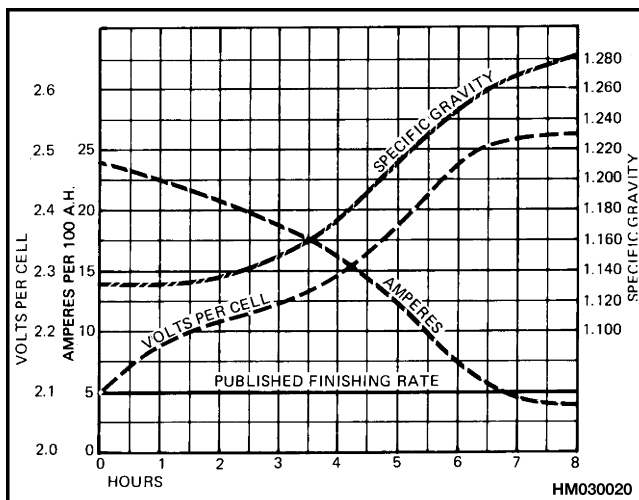

Figure 19. Specific Gravity Compared to Charging Time
1. **GRADUAL CHARGE.** This method uses a solid-state automatic battery charger. The charging rate begins at 20 to 25 amps/100 amp-hours and decreases to less than 5 amps/100 amp-hours when the battery is 80 percent charged. The charging current decreases when the voltage across the cell increases during the charging cycle shown in Figure 19. The increase in the voltage from the charger is approximately the same as the increase in the specific gravity in the cells.